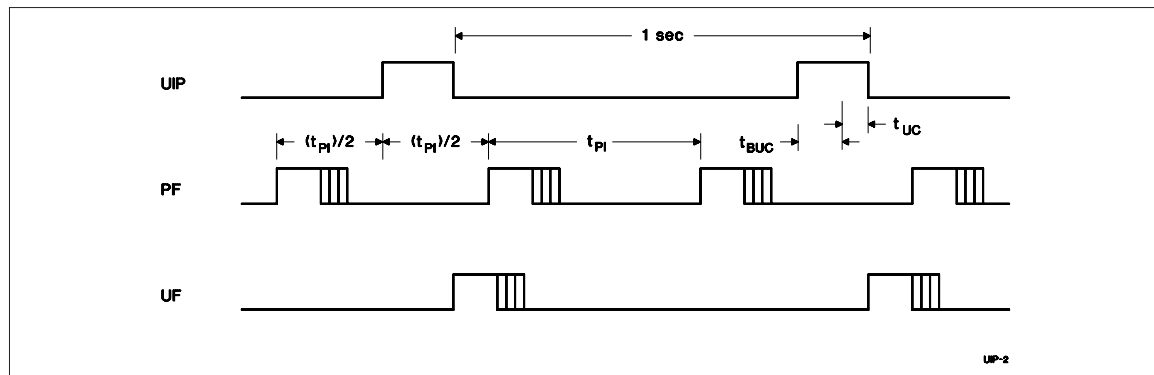

Figure 3. Update-Ended/Periodic Interrupt Relationship
- Enable the update interrupt event to generate interrupt requests at the end of the update cycle. The interrupt handler has a maximum of 999ms to access the clock bytes before the next update cycle begins (see Figure 3).
- Poll the update-in-progress bit (UIP) in register A. If  $UIP = 0$ , the polling routine has a minimum of  $t_{BUC}$  time to access the clock bytes (see Figure 3).
- Use the periodic interrupt event to generate interrupt requests every  $t_{PI}$  time, such that  $UIP = 1$  always occurs between the periodic interrupts. The interrupt handler will have a minimum of  $t_{PI}/2 + t_{BUC}$  time to access the clock bytes (see Figure 3).